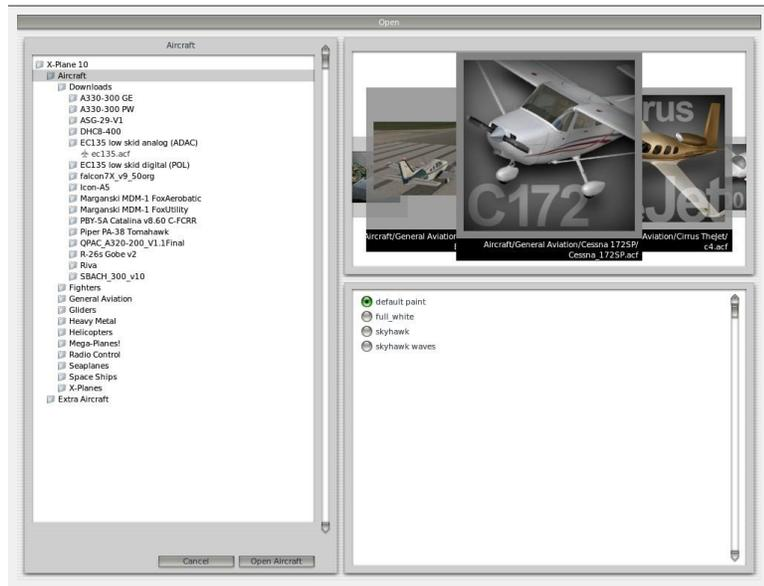

Figure 5.2: Selecting the Open Aircraft dialog from the Aircraft menu [Full size →]
3. The Open Aircraft dialog appears, as seen in Figure 5.2. In the left half of this dialog box is a display of the X-Plane directory and its subfolders. To the right is a “cover flow” -type display of all the aircraft contained in whichever directory is selected in the left-hand pane. You can scroll through this cover flow view using your mouse’s scroll wheel—whichever aircraft is foremost in that view is the one selected.